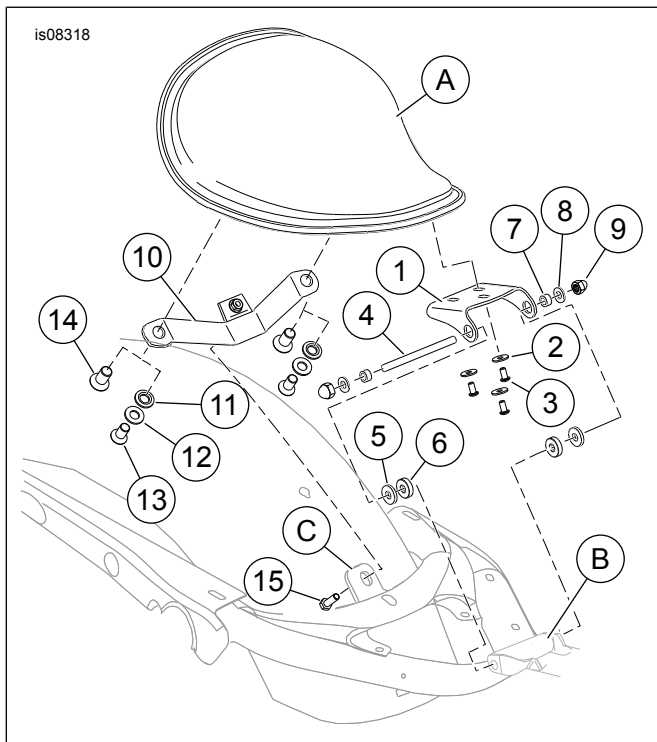

Figure 2. Service Parts: Rigid Seat Mounting Kit
See Figure 2 and Table 1.
3. See Figure 2. Install the saddle pivot bracket (1) to the saddle with three washers (2) and screws (3). Tighten the screws to 5.5–8 N·m (48–72 in-lbs).
5. Install bushings (5) into the pivot bracket from the inside.
6. Install washer (8) and a sleeve spacer (7) from the kit onto stud (4). Insert the stud through the right side of the pivot bracket. Install a thin spacer (6) onto the stud.
7. Install the pivot bracket over the rear fuel tank mounting point (B).
8. Install a thin spacer (6) between the left side of the fuel tank mounting point and the left bushing. Slide the stud through the left side of the pivot bracket.
9. Add spacer and washer to the left side. Center the stud. Secure the stud with nuts (9). Tighten the nuts to 20–27 N·m (15–20 ft-lbs).
10. Install bracket (10) to seat. **Seats with 1/2 in hole:** secure with screws (14). Tighten the screws to 14–16 N·m (120–144 in-lbs). **Seats with 3/8 in hole:** secure with screws (13), washer (12) and spacer (11). Tighten the screws to 14–16 N·m (120–144 in-lbs).
11. Secure seat mount bracket to seat mount tab (C) with screw (15). Tighten the nuts to 20–27 N·m (15–20 ft-lbs).